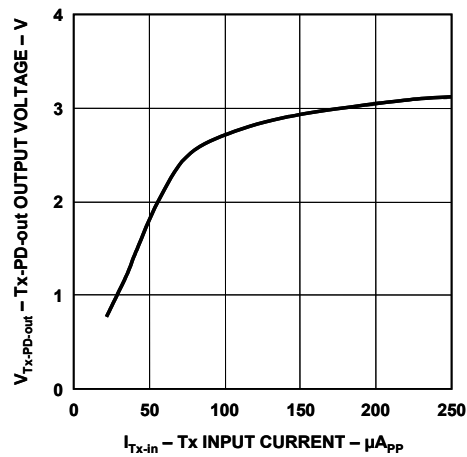
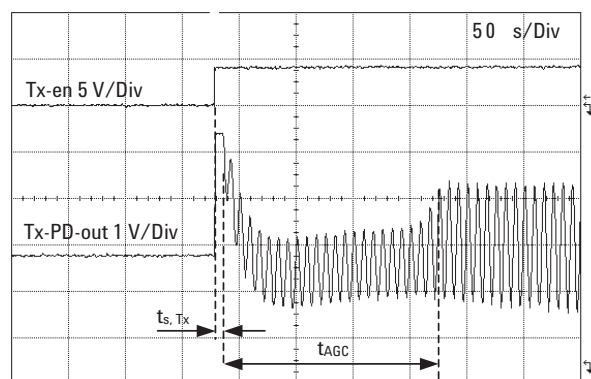

Figure 8. Tx-PD-out output voltage vs. Tx-in input current
Figure 26. Tx-PD-out AGC response time
1. Time from transmit is enabled (V_{Tx-en} is set to logic high) until output (Tx-PD-out) is available. See Figure 26 in the Application Information section.
2. Time from output (Tx-PD-out) is available until Tx-PD-out signal reaches 66% of its steady state level. See Figure 26 in the Application Information section.
This AGC circuit compensates for variations in the input signal level presented at Tx-in and variations in the optical channel over temperature and time. The Tx-PD-out output signal is effectively stabilized for input Tx-in signals of between 150 μA_{pp} and 250 μA_{pp} (see Figure 8). The AGC circuit starts to function 10 μs after the Tx-en signal is set to logic high. After a period of 180 μs the Tx-PD-out signal typically reaches 66% of its steady state level (see Figure 26). To ensure correct operation of the internal circuitry, an external 1 μF capacitor needs to be connected from pin 11 to GND2.